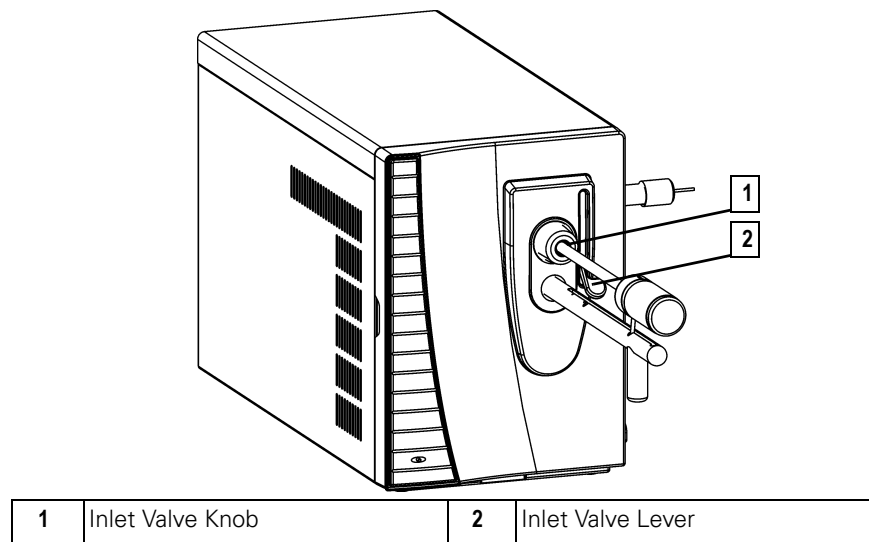

Figure 2-17. I/R Tool Ready to be Inserted
- a. Slide the **I/R Tool (1)** until the **Guide Ball (2)** is slightly beyond the **Second Stop (4)**.
- b. Turn the **I/R Tool Handle (1)** counterclockwise to the **Release Position** . Listen for a "click".
- c. Withdraw the **I/R Tool (1)** away about 2.5 cm (1 in.).
- d. Turn the **I/R Tool Handle (1)** to the **Hold Position** .
- e. Slide the **I/R Tool (1)** forward until it touches **Ion Volume**. This ensures that the **Ion Volume** is fully inserted.
- f. Withdraw the **I/R Tool (1)** until the **Guide Ball (2)** reaches the **First Stop (3)**.
- g. Push the **Inlet Valve Lever** (Figure 2-17) down to close it.
- h. Loosen the **Inlet Valve Knob** (Figure 2-17).